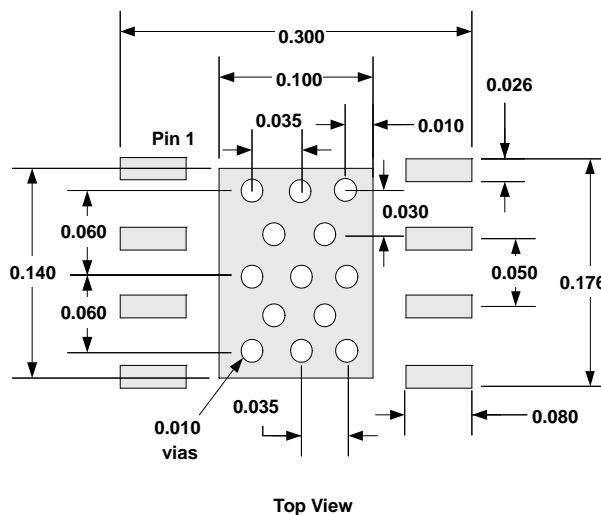

Figure 67. DDA PowerPAD PCB Etch and Via Pattern
1. PCB with a top side etch pattern as shown in Figure 67. There should be etch for the leads as well as etch for the thermal pad.